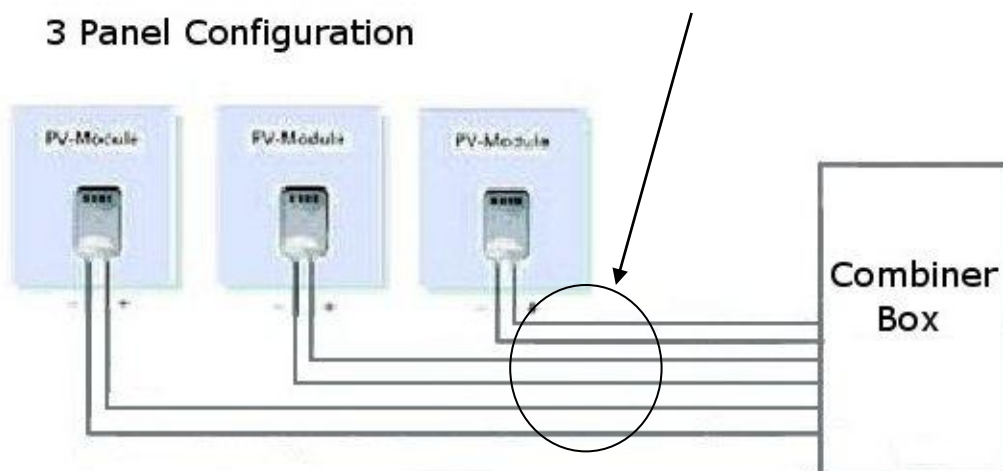

Fig.52a
- Connection method A: **Extension cables will be needed in the 3 panel configuration connecting The J-Box cables to the combiner box. See figure 52a.**